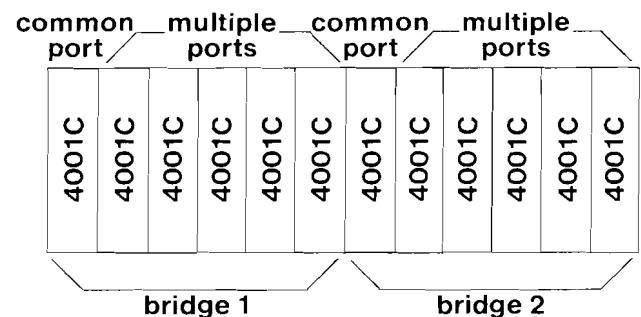

figure 3. Module arrangement for two 4wire 6way resistive data bridges in a Tellabs 246 Mounting Assembly
2.03 The 4001C can also be used in the Tellabs 246 Resistive Data Bridge System, where each module provides an active interface between an external 4wire facility and the passive fixed-loss data bridge. Figure 3 shows a typical configuration for two 4wire 6way fixed-loss data bridges.